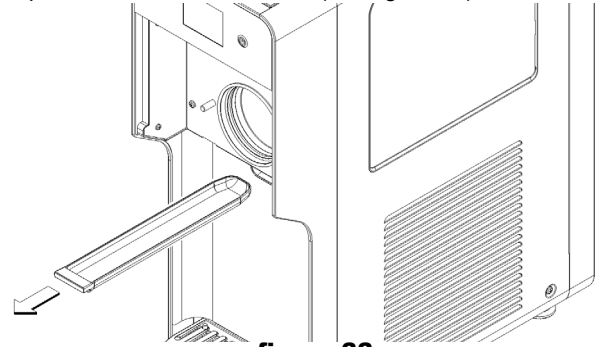

figure 33
- 3 **Once weekly:** check for the presence of any leakage by removing the purpose-designed tray (see figure 33). In case they are present, make sure the scraper coupling seal is properly installed and not worn. If it is, replace with an original